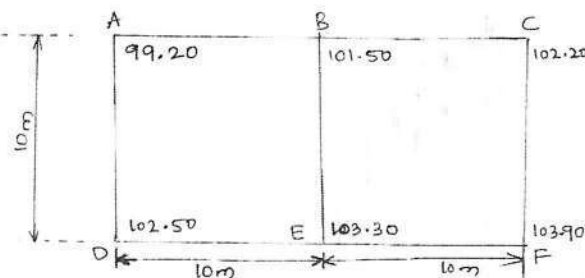

Fig.Q6(a)
- 6 a. Plot the contours of RL 100.00, 101.00, 102.00, and 103.00 in the given square blocks of 10 m × 10 m. The reduced levels of guide points are given in Fig.Q6(a).